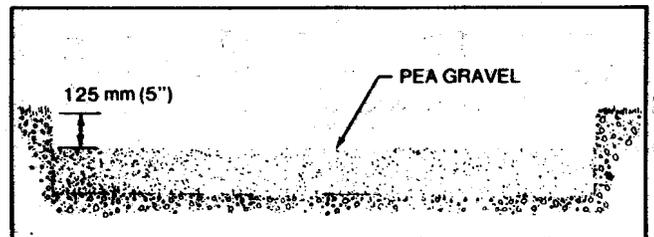

Fig. 18c
- (2) Set the forms for a 1.8 m (6 ft.) x 1.8 m (6 ft.) x 125 mm (5 in.) slab.
- (3) Fill the excavation with pea gravel to within 125 mm (5 in.) of ground level. (See Fig. 18c.)